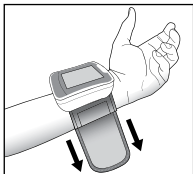

Fig. 1
4. Apply the preformed cuff to your left wrist so that the digital display face is positioned on the inside area of your wrist facing you, Fig. 1.